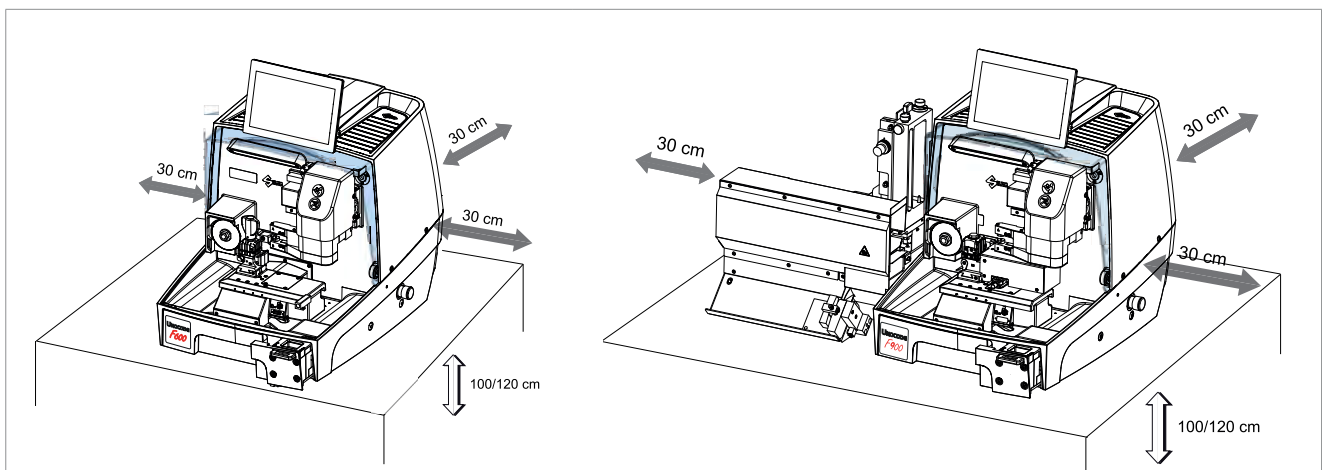

Fig. 25
- 1) Place the key-cutting machine on a solid horizontal work bench suitable for the weight of the machine (chap.2.5, page 10). The work bench should be approximately 100-120 cm high to facilitate access to the working parts. We recommend leaving at least 30 cm clearance behind and around the machine to ensure good ventilation and facilitate handling (Fig. 25).